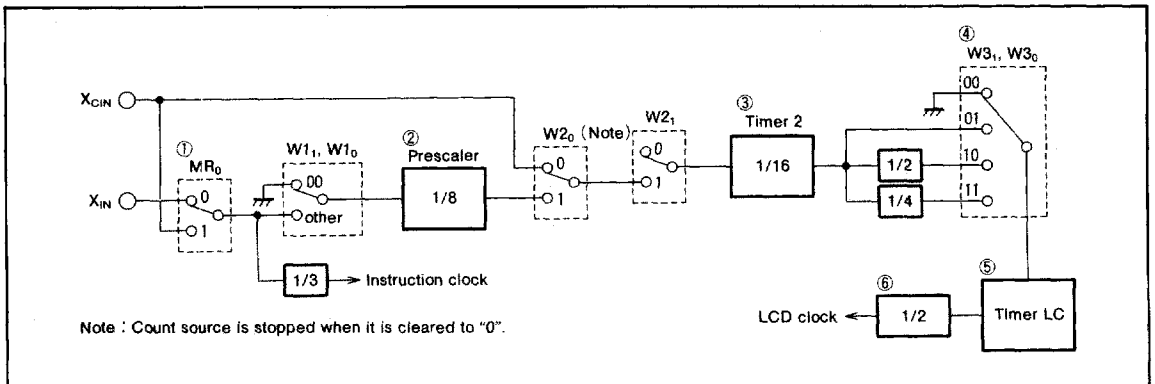

Fig. 29 LCD clock control circuit
(2) LCD clock control
The LCD clock is determined by the setting values of the timer 2 count source selection bit (W2₀), LCD clock frequency dividing circuit control bits (W3₀, W3₁), and timer LC. Accordingly, the frequency (F) of the LCD clock is obtained by the following formula. The number (① to ⑥) shown under formula corresponds to Fig.29